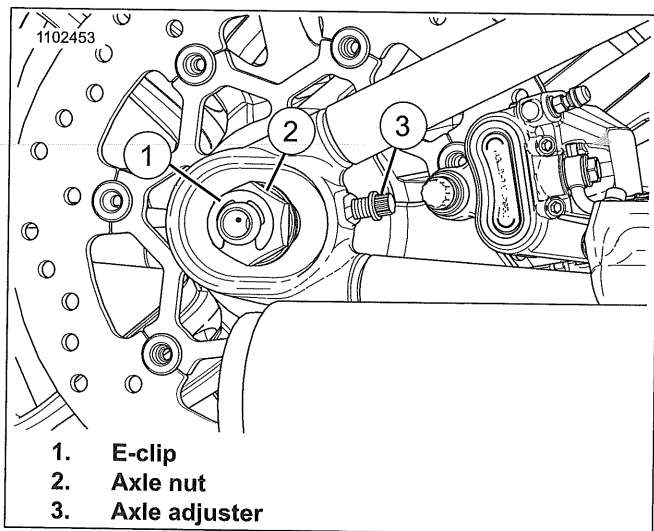

Figure 2-37. Axle Adjuster
1. See Figure 2-37. Loosen rear axle nut (2).
- a. Turn axle adjusters (3) equal number of turns.
3. Tighten axle nut (2).